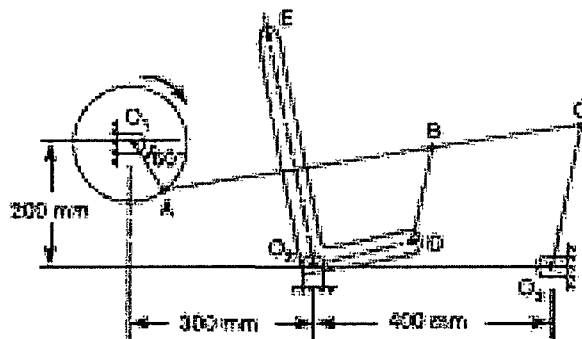

Fig 3
13. a. The mechanism of a wrapping machine, as shown in Fig. 3, has the following dimensions: